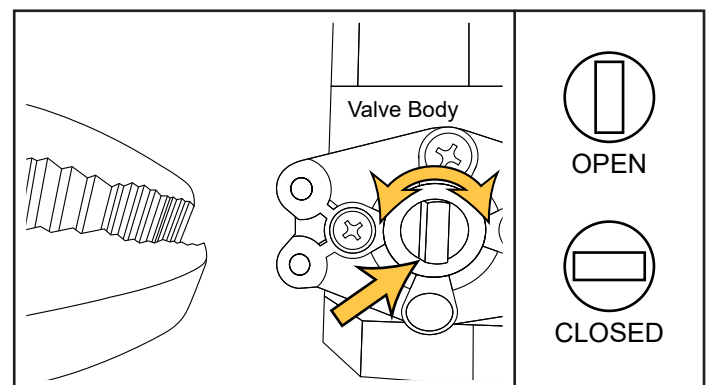

Fig. 66 - Turn valve body key with pliers
3. Using pliers, turn valve body key to adjust valve (see Fig. 66).